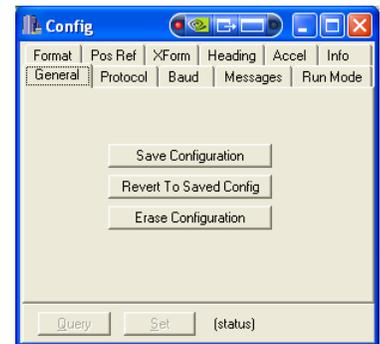

Figure 18. General Tab
6.1 Accessing the MIDG Config dialog box. The MIDG Config dialog box (Figure 18) can only be accessed through the MIDG Display Utility. The following will instruct the user on how to access this feature.
6.2 General - The "General" tab (Figure 18) has three (3) function buttons. These buttons allow the user to control the configuration profile. Each feature is detailed below.